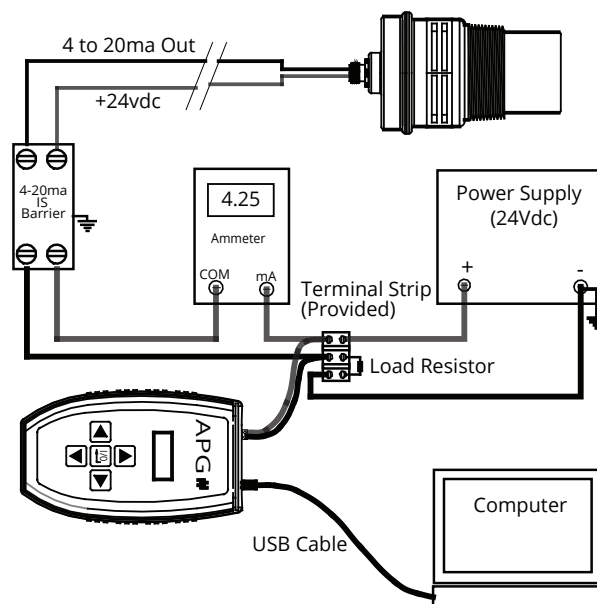

Figure 2.2
- Ensure that load resistor is between RST-4001 and control network or PLC, rather than between sensor and RST-4001. (See Figure 2.2)